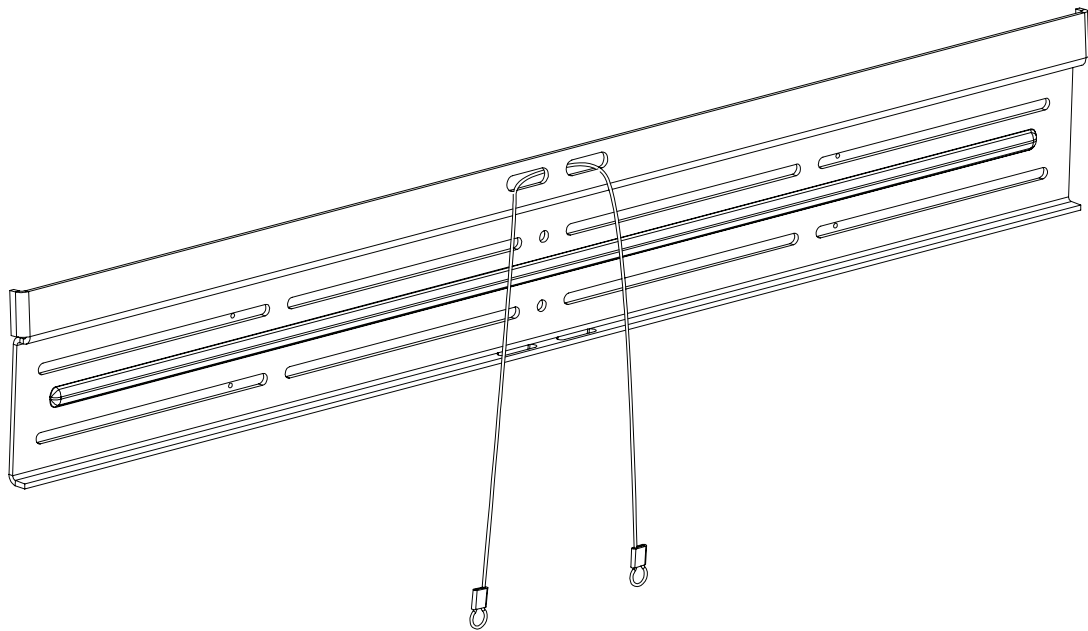

Figure 5
- 12 As shown in figure 5, attach the wall bracket to the wall using washers and wood screws/lag bolts. Use a level to when tightening down the screws/lag bolts.